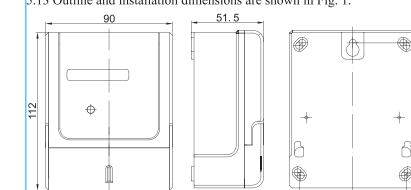

Fig. 1 Outline and installation dimensions
5.13 Outline and installation dimensions are shown in Fig. 1.